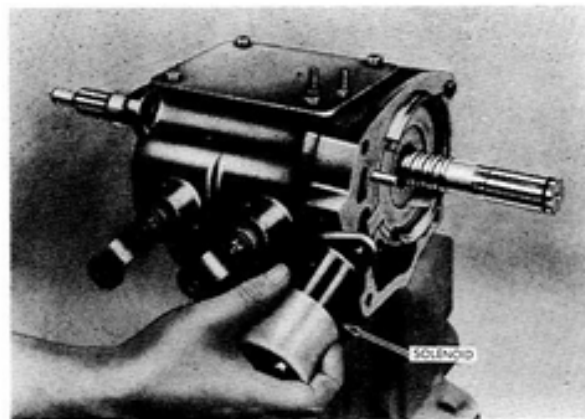

Figure 16.
j. Remove the solenoid by taking off the cap screws and lock washers and turning the solenoid clockwise one-quarter turn (Fig. 16).